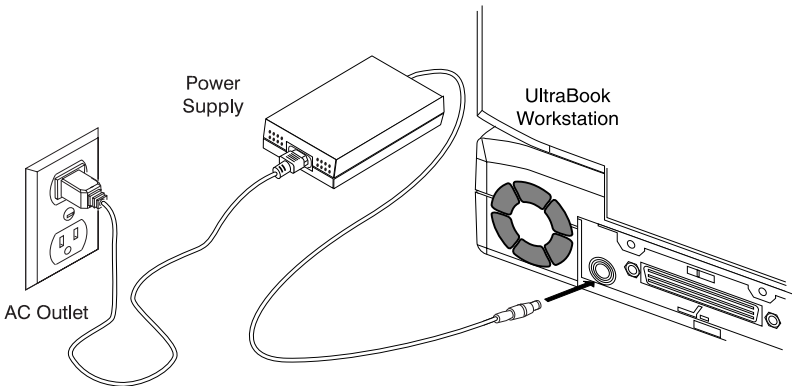

Figure 3-2 Connecting to AC Power
3. Plug the polarized connector from the AC adapter into the power input socket on the UltraBook (see Figure 3-2). Then plug the AC cable plug into a nearby AC outlet.